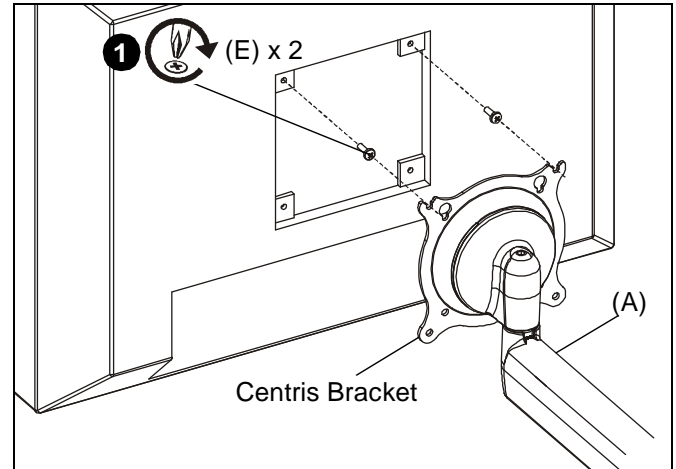

Figure 5
IMPORTANT ! : IF your display has a recessed mounting hole cavity, and the Centris bracket (identified in Figure 5) will not fit into that cavity, proceed to "DISPLAY INSTALLATION" (See Page 7) *before continuing* with this mount installation procedure. Otherwise, continue below.
1. Using Phillips screwdriver, carefully install two M4 x 12mm screws (E) into the *upper* mounting holes on the display (See Figure 5). Thread screws completely into display, then back out 3-1/2 turns.
2. Pick up and align display so that screws (E) (installed in the previous step) fit into *upper* 100mm x 100mm mounting cutouts, or *upper* 75mm x 75mm mounting holes (as applicable) on Centris bracket. (See Figure 5) Lower display firmly into place.